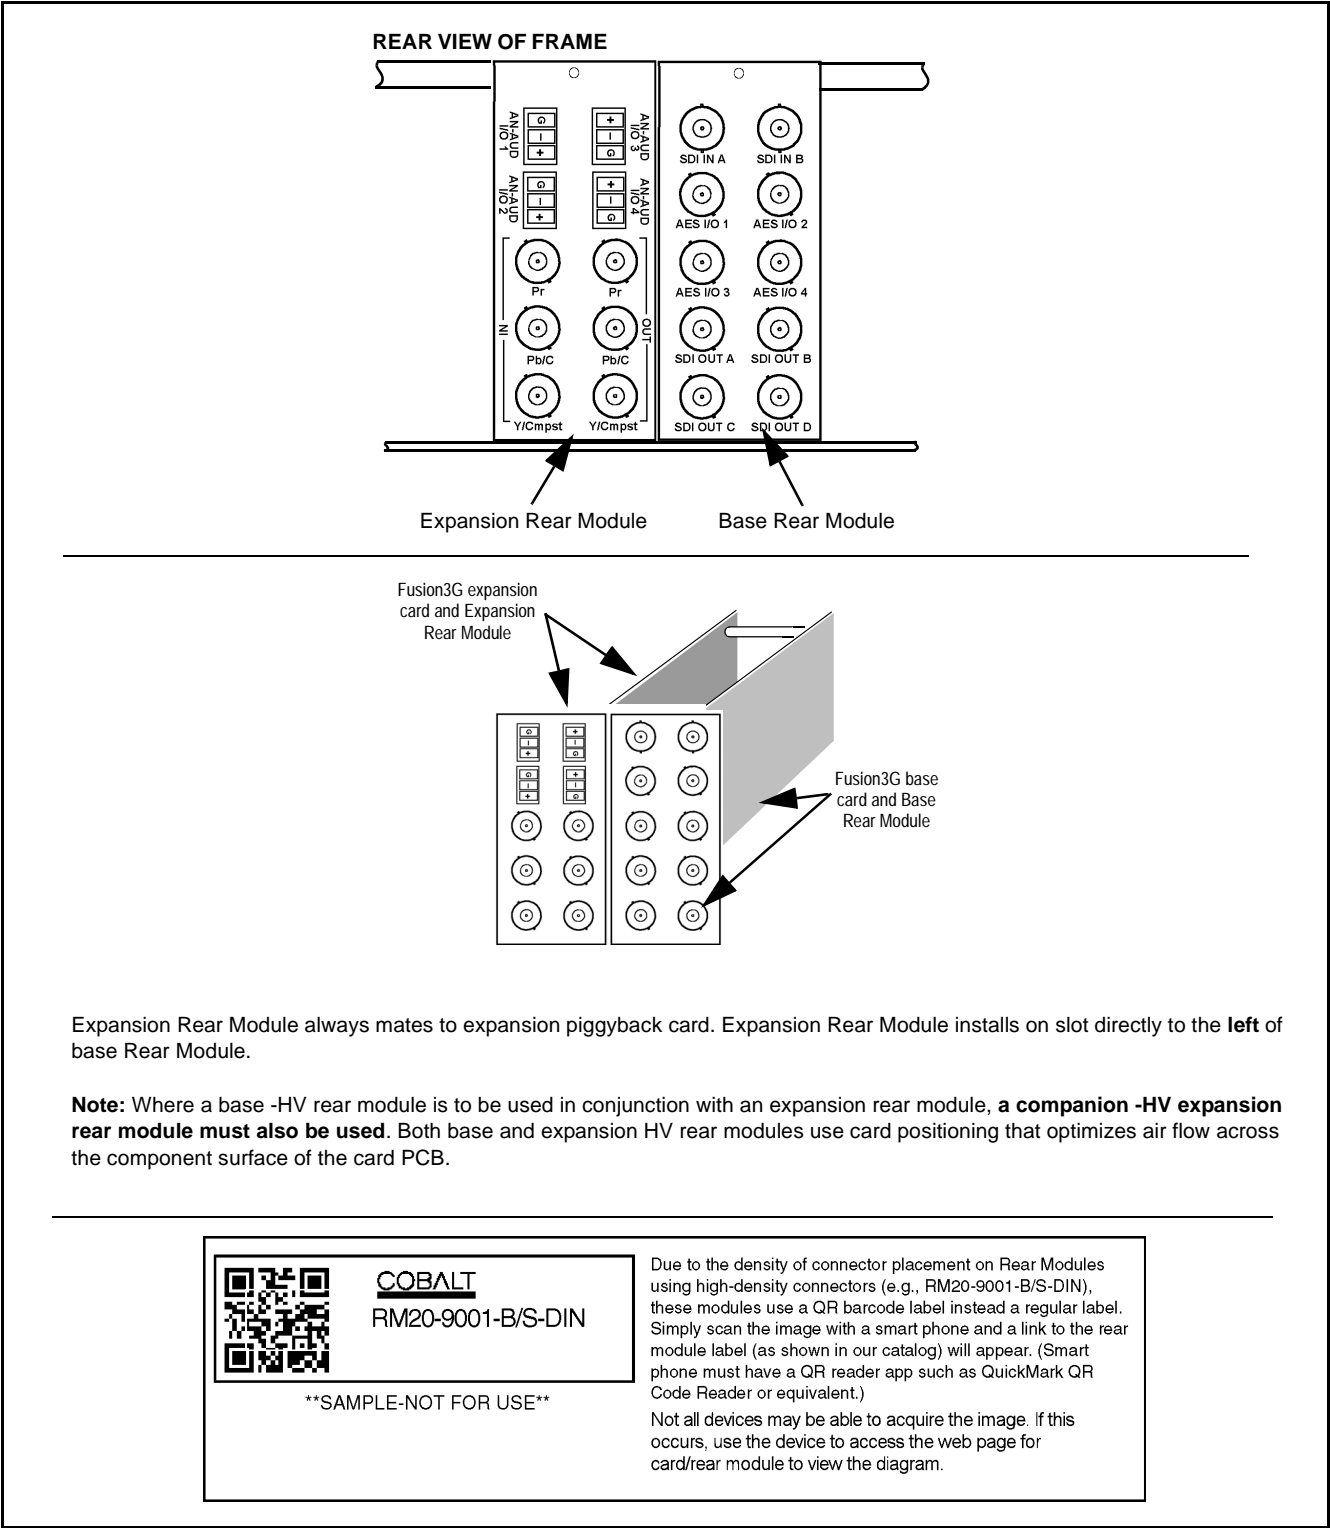

Figure 2-3 9985 with Expansion Rear Module
- Where options are furnished using a piggyback card mounted to 9985 main card, **base** Rear Module must be installed in frame location such that Rear Module interfaces with **base card**. **Expansion** Rear Module must be installed in frame location such that Rear Module interfaces with **expansion (piggyback) card** (see Figure 2-3).
3. If an expansion Rear Module is to be installed, install it adjacent to the base Rear Module as shown in Figure 2-3.
<p>High-Ventilation Rear Modules</p> <p>High Ventilation (HV) Rear Modules offer coaxial connections using miniaturized connectors (HDBNC or DIN 1.0/2.3), thereby freeing-up area for openings to increase ventilation. This is helpful where normal above-frame ventilation space cannot be accommodated, or in cases where the frame is fitted with a large amount of high-power cards (such as the 9985, and especially when equipped with options requiring a piggyback card such as option +ANAIO).</p> <p>Where a base HV rear module is to be used in conjunction with an expansion rear module, a companion expansion rear module of the -HV type must also be used. (For example, base module RM20-9985-B-HV can be used with expansion module RM20-9985-XB-HV. RM20-9985-B-HV cannot be used with “normal” expansion module RM20-9985-XB.) See Figure 2-3 for other considerations regarding HV rear modules.</p>